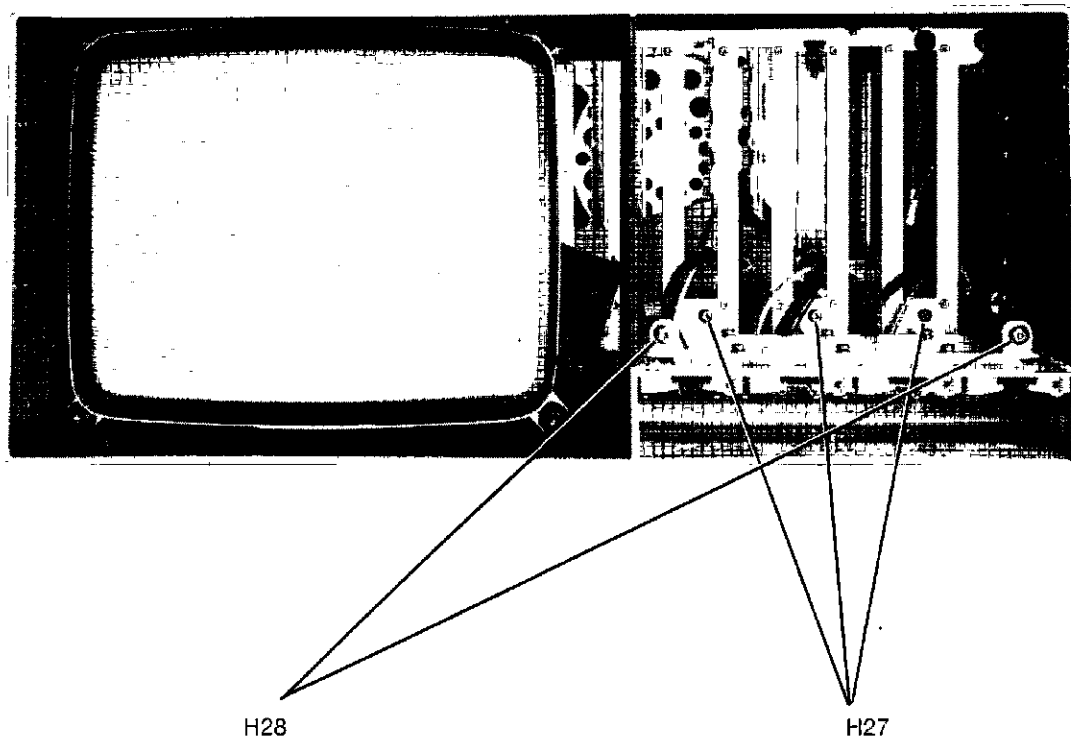

Figure 6A-12. Pod Connector Attaching Screws.
8. Remove 5 torx screws in figure 6A-12.